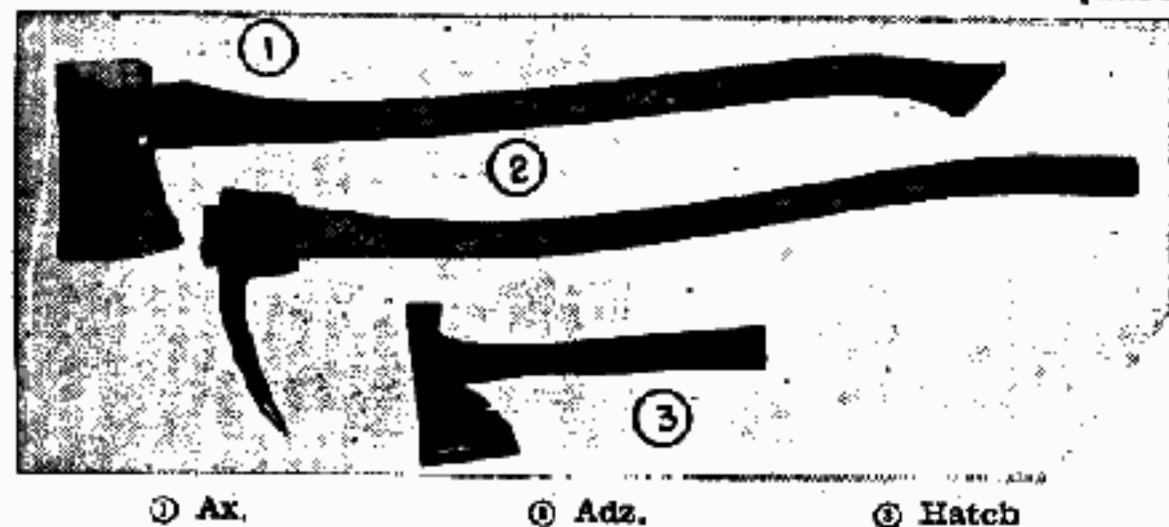

FIGURE 2.—Hewing tools.
a. **Ax** (see fig. 2).—Before starting to swing the ax, make sure that there is no interference in any direction. If there are overhanging limbs or undergrowth in the way, clear them out first. Make sure of a firm footing and see that no one is dangerously close. In swinging the ax, be especially careful to stand so that if the mark is missed, or if the ax glances off, it will not strike you. (See figs. 3 and 4.) Keep your eyes on the point to be struck. Never throw the ax or leave it lying on the ground; instead, drive it into a log or stump, or put it in its box. Never use the ax to drive metal stakes.
b. **Hatchet** (see fig. 2).—The hatchet is used for light trimming work such as framing timber, sharpening stakes, or splitting wood. The position of the hand depends upon the desired blow. Hold it near the end of the handle to strike a heavy blow for heavy cuts and near the head for light trimming strokes. The hatchet has a hammerhead which may be used for driving medium-size nails.
c. **Adz** (see fig. 2).—The adz is a hewing and smoothing tool used by engineers mainly to remove bark and to square